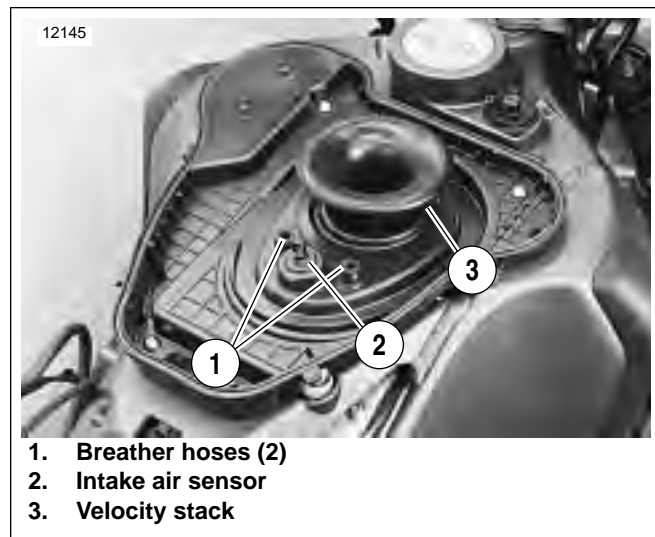

Figure 1-45. Air Cleaner Base Plate Assembly
3. See Figure 1-45. Make sure two crankcase breather hoses (1) and intake air sensor (2) are captured in baseplate behind velocity stack (3).